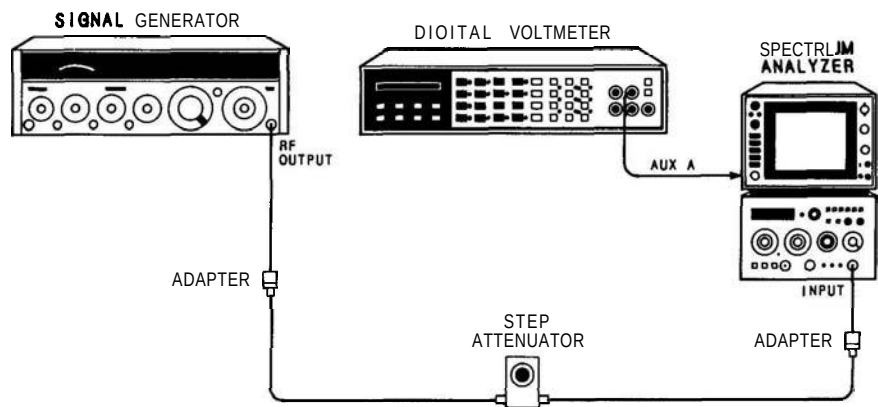

FIGURE 4-22. DISPLAY FIDELITY TEST SETUP
3. Connect equipment as shown in Figure 4-22. Set step attenuator to 0 dB.
5. Set spectrum analyzer's FREQSPAN/DIV control to zero (0), VIDEO FILTER full CW (not in detent), and RESOLUTIONBW control to 1 MHz. Adjust TUNING control for maximum reading on DVM.